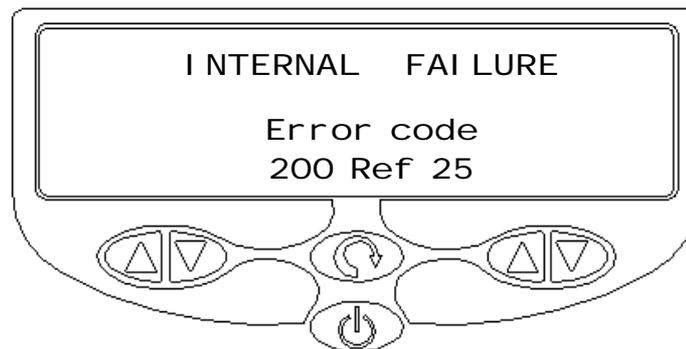

Fig 4.11 Screen for critical error display
**Red Warning Symbol** - Except during the self-test routine and a non-critical failure, illumination of the red warning symbol on the front panel when accompanied by the "Error Code XXX REF XX" symbol (Fig 4.11 Screen for critical error display) on the front panel display indicates a critical failure. In the case of a critical failure, **DO NOT ATTEMPT TO USE THE UNIT**. Please refer to Section 11 for information.